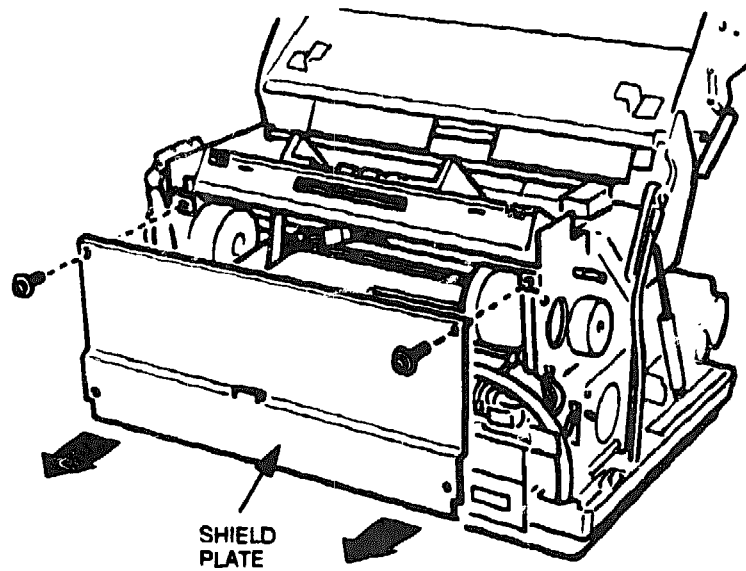

Figure 6-59 Shield Plate
2. Remove the two screws securing the shield plate to the rear of the printer frame. Then remove the shield plate from the frame (see Figure 6-59).